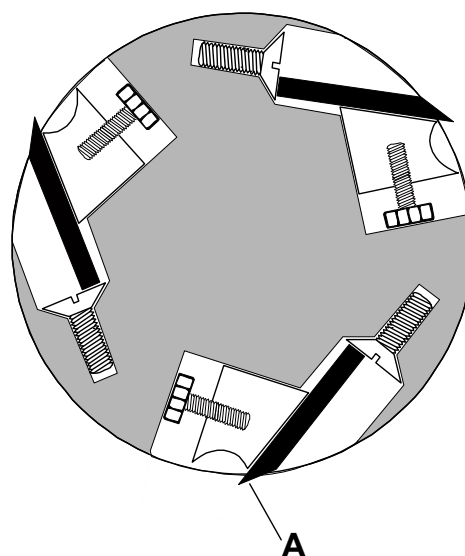

Figure 16
2. Rotate the cutterhead such that one of the knives (A, Fig. 16) is at the 6 o'clock position.